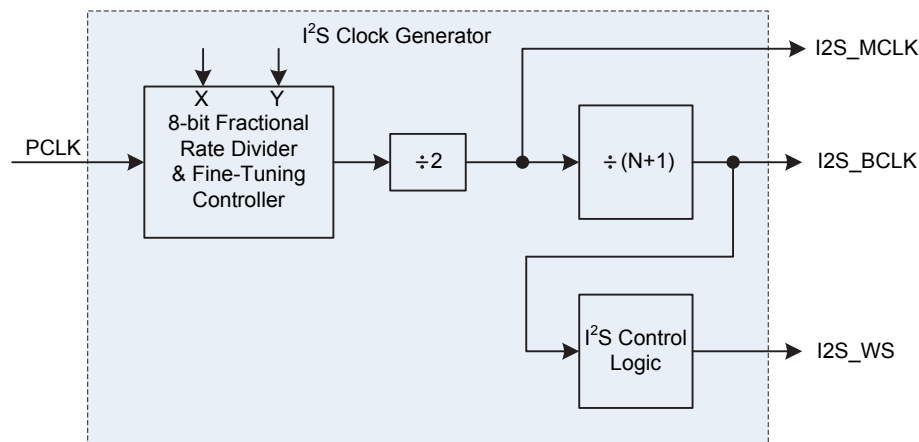

Figure 196. I²S Clock Generator Diagram
The main (I2S_MCLK) and bit clock (I2S_BCLK) rates for the I²S are determined by the values in the I2SCDR register. The required I²S bit clock rate setting depends on the desired audio sample rate desired, the format (stereo/mono) used, and the data size. The main clock rate (I2S_MCLK) is generated using a fractional rate divider which is a divided down PCLK frequency of the I²S. Values of the numerator (X) and the denominator (Y) must be chosen to produce a frequency twice that of the main clock (I2S_MCLK). The output frequency of the divider is divided by 2 in order to get the duty cycle of the output clock more even. The I²S clock generator block diagram is shown in Figure 196. The equation for the fractional rate divider is: